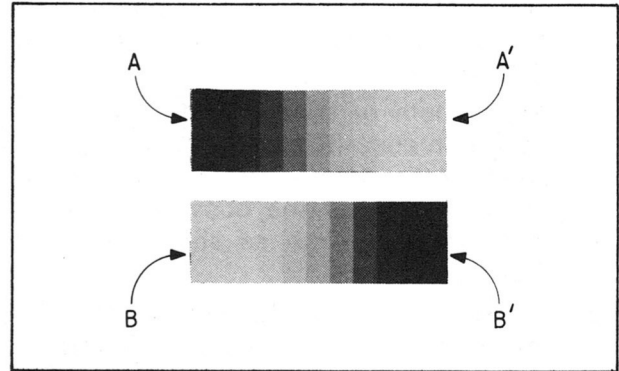

Fig 7.41
- (1) Remove the lens cap to focus on the grey-scale pattern, and effect the procedure detailed in Section 7.2.7.1 (TP-1 = 0.6V)
- (2) While referring to the TV monitor, adjust T31 **DELAY ADJ** on CA 1501A so that the fringes are eliminated from edges A-A' and B-B' as shown in Figure 7.41.